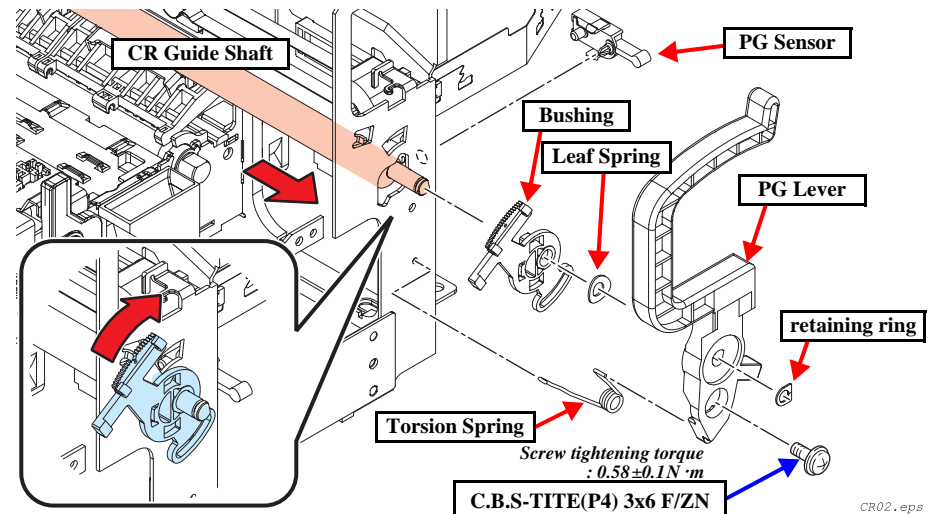

Figure 4-16. Carriage Unit Removal (Right Frame)
11. On the right side of the printer, remove retaining ring, then remove PG Lever, Torsion Spring and Leaf Spring. (See Figure 4-16.)